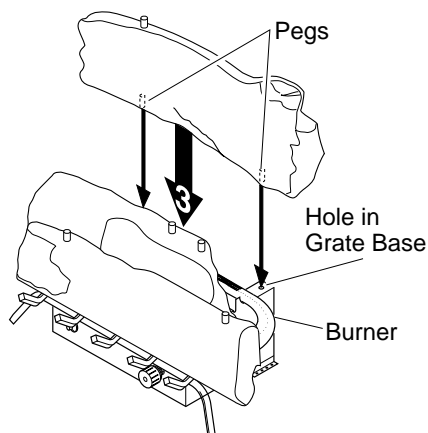

Figure 29 - Installing Rear Log (#3)
3. Locate pegs on the bottom of back log (#3). Slide these pegs into the holes in the grate base behind the burner (see Figure 29).